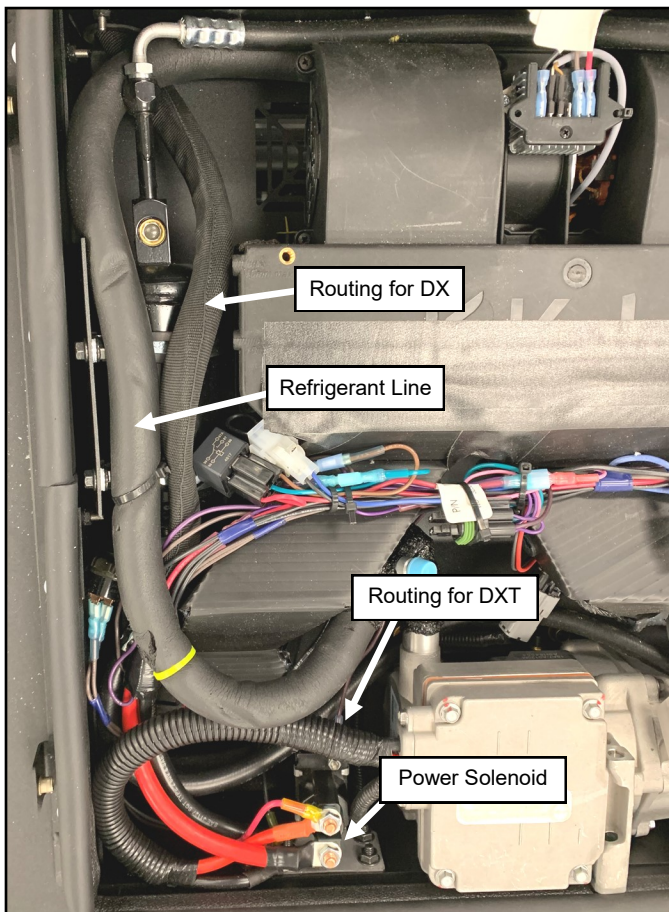

Fig. 1.4 (Route harness inside A/C Unit)
- 1.4 Route the Power Supply Harness per fig 1.4.